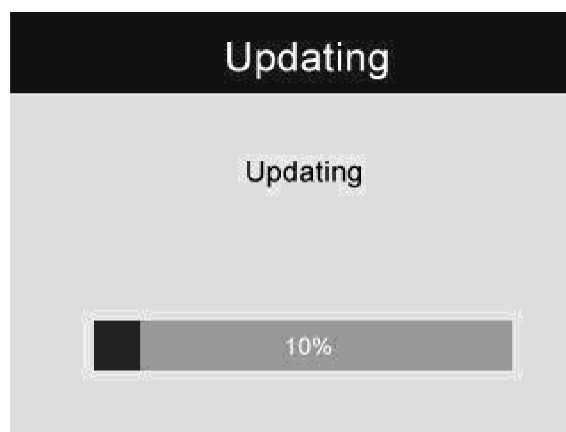

Fig. 29
- 4) Press **Power** button to turn on the tool and then press **UP** button until the update screen pop up, select **YES** to upgrade the tool (**Fig. 29**).